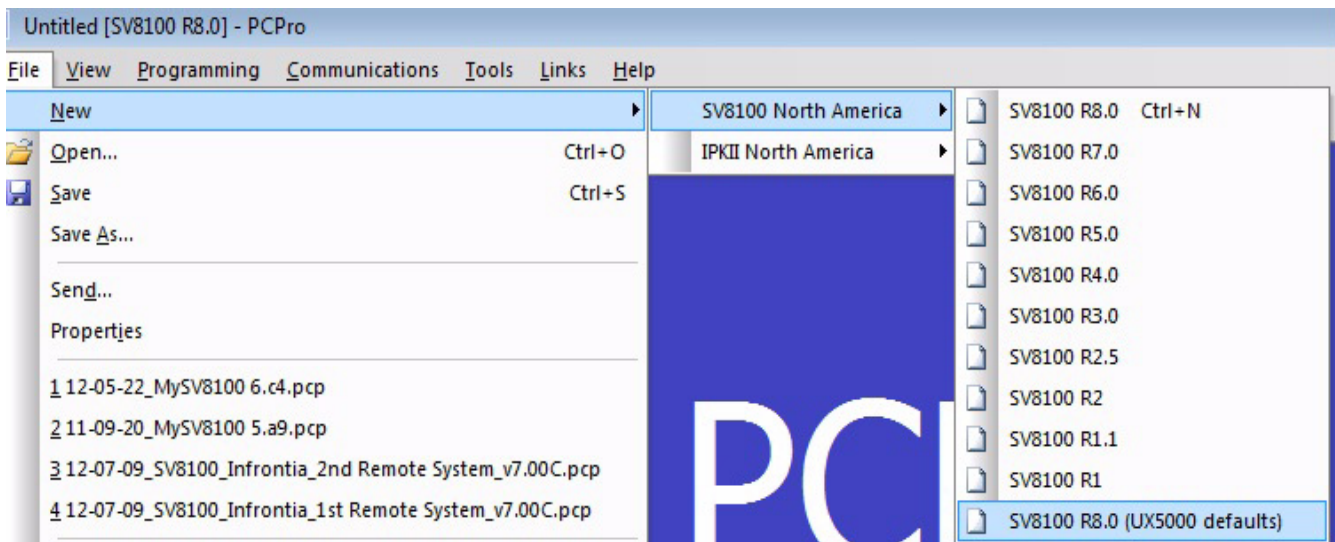

Figure I-6 Initial Screen
2. Click **File > New > SV8100 North America > SV8100 R8.0 (UX5000 defaults)**, Figure I-6 - Initial Screen.